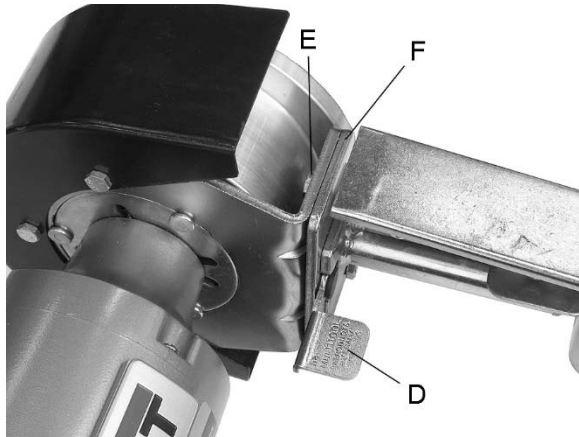

Figure 8-2: belt tracking
Rotate belt by hand to check tracking. If belt shifts to one side or the other, move tracking lever (D, Figure 8-2) while rotating belt until belt completely covers contact wheel and stays centered. Move lever (D) down for left adjustment, up for right adjustment. Turn on grinder to verify setting at operational speed.
1. If belt wanders *away* from grinder, loosen top bolt (E, Figure 8-2) and tap top of cam plate (F) away from grinder.
2. If belt wanders *toward* grinder, loosen top bolt (E) and tap top of cam plate (F) toward grinder.
3. Retighten bolt (E), and use lever (D) for final tracking.